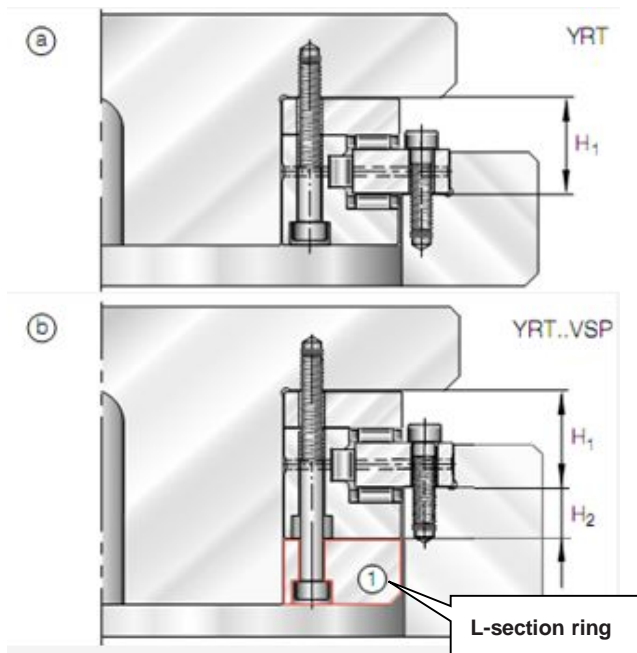

Figure 1
1.1 Design & Installation Structure with the requirements shown in Figure 1